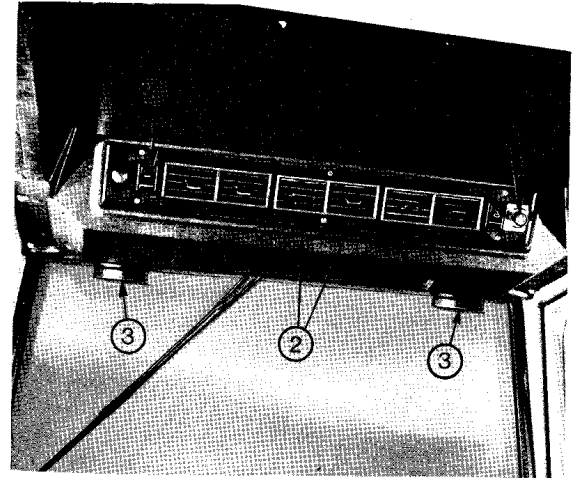

FIG. 2
2. Fig. 2. Turn the heater switch (1) fully clockwise.
3. Switch the blower (4) to the 'slow' position.
4. Direct the flow of air, as required, using the air flow vents (2).
5. To increase the flow of air, switch the blower (4) to the 'fast' position.
2. Fig. 2. Turn the heater switch (1) fully anticlockwise.
4. Direct the flow of air, as required, using the air flow vents (2) or the demister vents (3) for defrosting or demisting the windscreen.
5. To increase the air flow, switch the blower (4) to the 'fast' position.